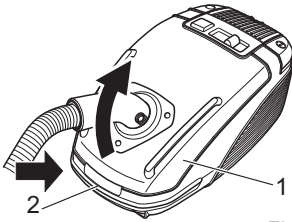

Fig. 18
2. Press the release button (Fig. 18/1) and open the dust chamber cover (Fig. 18/2).